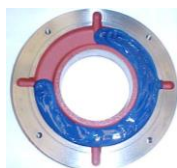

Figure 7.5: Outer bearing cap
- Fill up to  $\frac{3}{4}$  of the inner and outer bearing cap deposits with the recommended grease (Figure 7.5) and lubricate the rolling bearing with enough grease before assembling it;
When the bearing is opened, inject the new grease through the grease nipple to expel the old grease found in the grease inlet tube, and apply the new grease in the rolling bearing, to the inner and outer rings, filling  $\frac{3}{4}$  of the empty spaces, as shown in Figure 7.5. In case of double bearings (ball bearing + roller bearing), also fill  $\frac{3}{4}$  of the empty spaces between the intermediate rings. Never clean the rolling bearing with cotton-based cloths, because they leave some lint, working as solid particles.